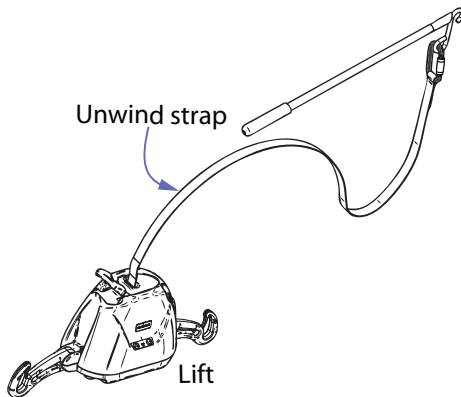

Fig. 5
2. Unwind the strap from the lift long enough to be able to reach the trolley without supporting the weight of the lift. See Fig. 5.